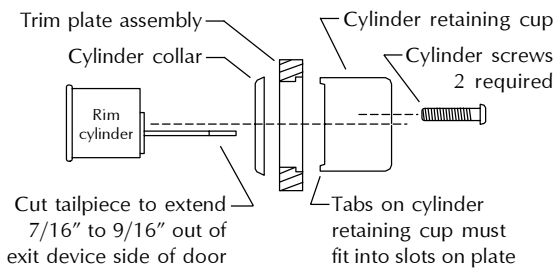

Figure 1
3. For TP and NL trim, install rim cylinder (Figure 1).